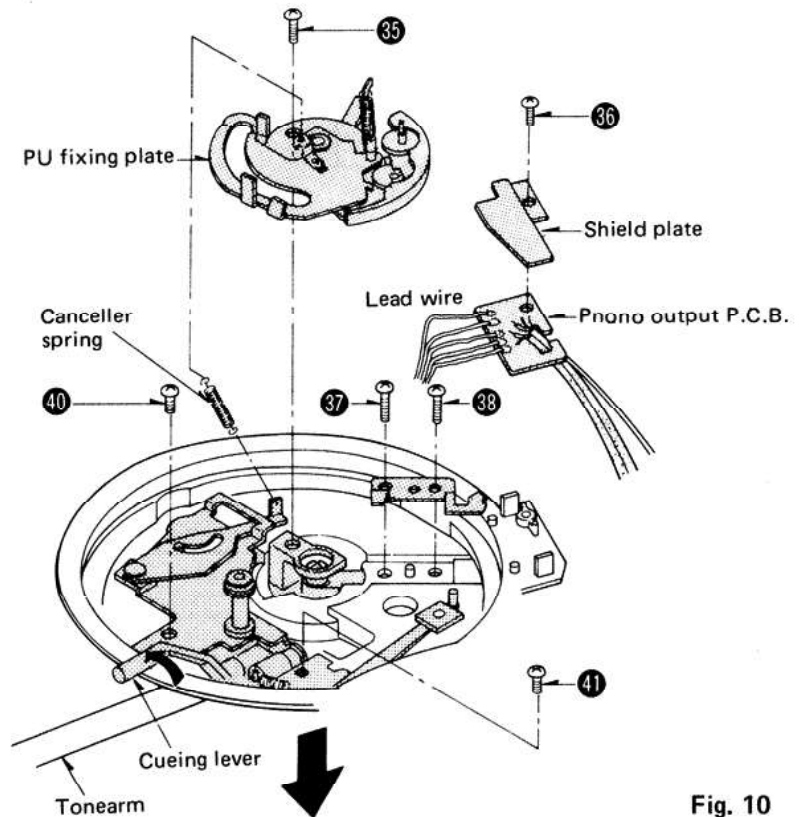

Fig. 10
3. When removing the tonearm, turn over the arm base and remove the PU fixing plate setscrew 35 and canceller spring. (See Fig. 10)
4. Remove the phono output P.C.B. setscrew 36 and unsolder the 5 lead wires from the tonearm. (See Fig. 10)
5. Remove the tonearm setscrews 37 and 38. Then, the tonearm can be removed in the direction of the arrow. (See Fig. 10)
10. Before mounting the arm base, make sure that the automatic mechanism is in the initial stage, and then shift the cueing lever of the arm base down in the direction of the arrow in order to make cueing-up. (See Fig. 10)